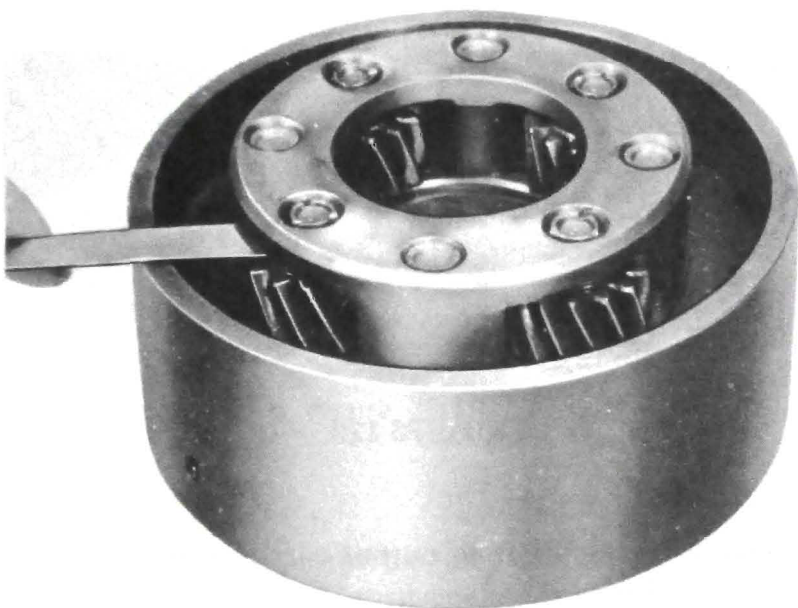

Figure 76-124
6. Check pinion end play. Pinion end play should be .009" - .024". See Figure 76-124.